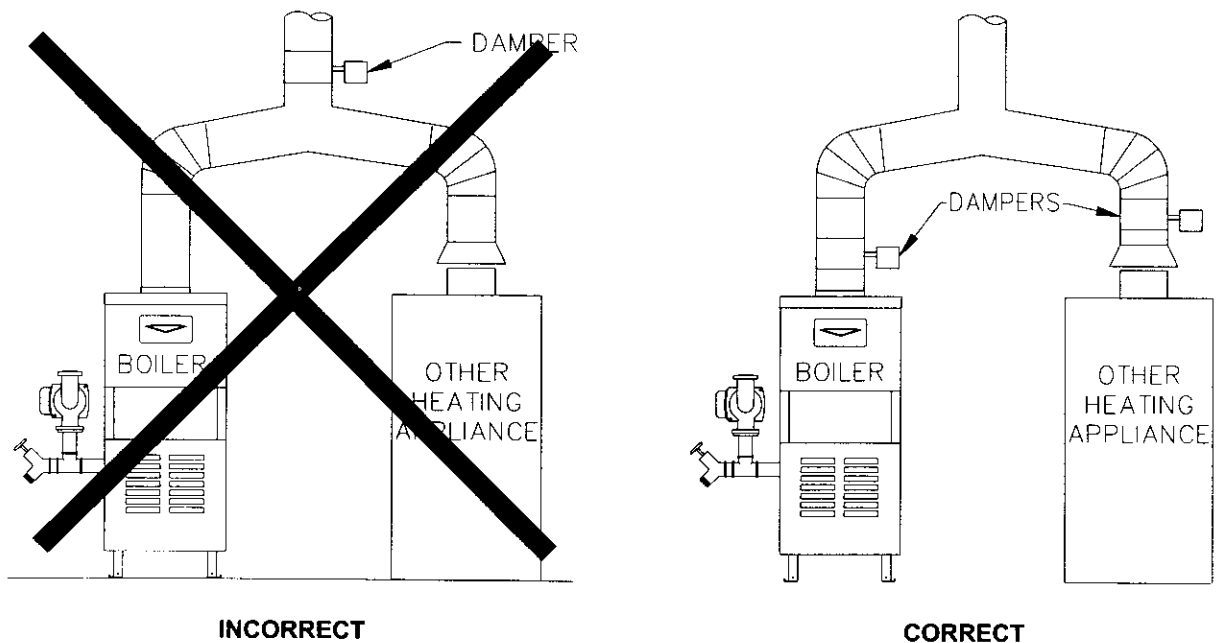

Figure 12: Venting Multiple Appliances
1. Do not use one vent damper to control two or more heating appliances. See Figure 12.